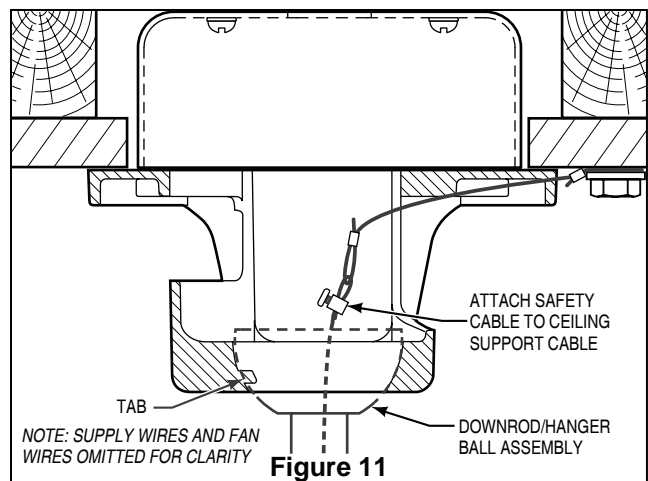

Figure 11
4. Carefully lift the fan and seat the downrod/hanger ball assembly on the hanger bracket that was just attached to the outlet box. Be sure the groove in the ball is lined up with tab on the hanger bracket (Figure 11)
5. Attach the safety cable to ceiling support cable. Slide cable clamp onto safety cable (from fan). Place the end of cable through the loop of ceiling support cable. Pull as much cable through loop as possible. Feed end of cable into clamp hole and firmly tighten screw (Figure 11).